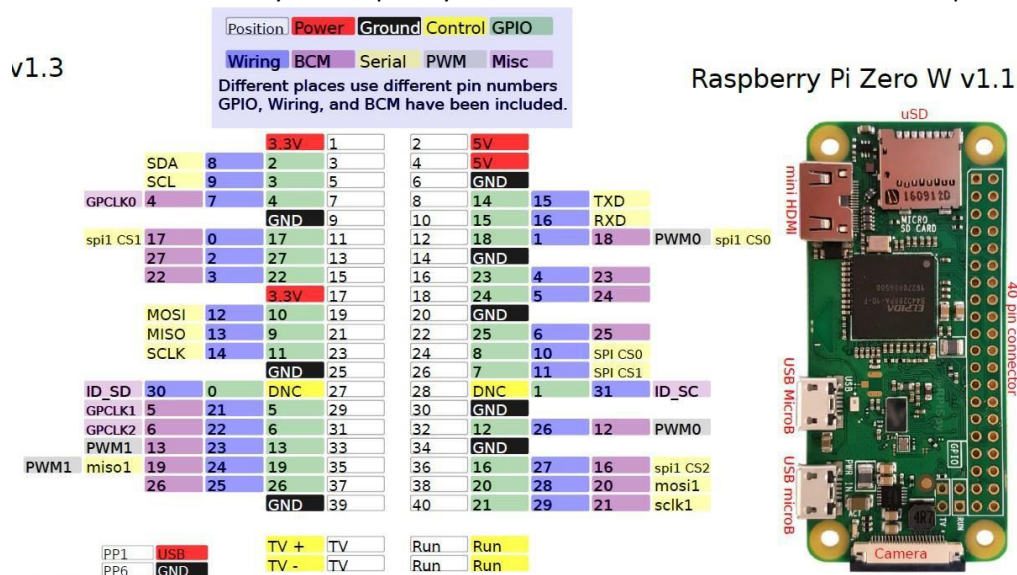

Figure 3 - Raspberry Pi Zero W Pin Connections
**You should use the following pins on the Pi-Zero: pin 1 (3.3V), pin 6 (GND), pin 3 (SDA), pin 5 (SCL) to connect to the equivalent connections on the VL53L1X-SATEL using the female-female wires provided.** Figure 3 show the Pin connections on the Raspberry Pi Zero W that you are using. Again pin 1 is indicated by the “square” solder pad located as the top left connection in Figure 3. However you may not be able to see this on your Raspberry Pi Zero W as the connector is soldered in place.